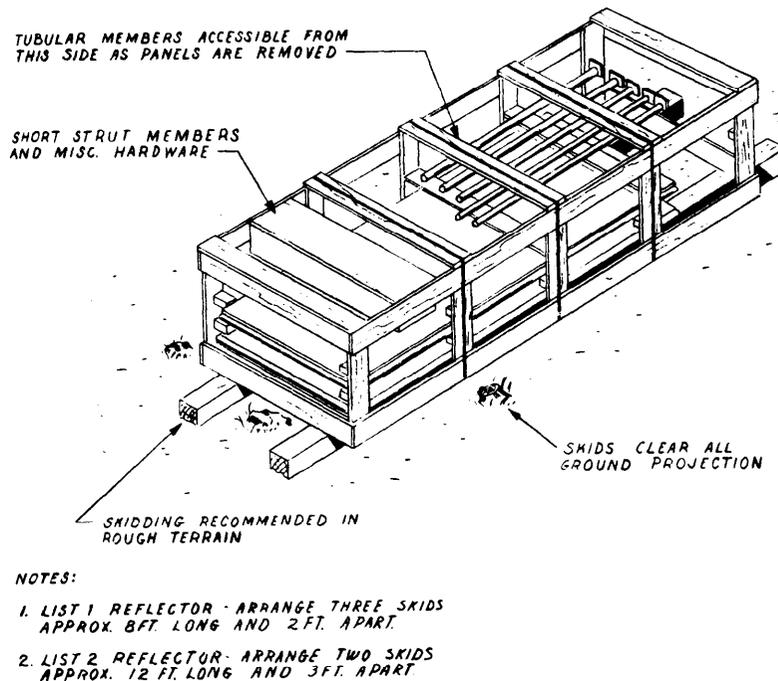

Fig. 1 — Placement of Shipping Crate for KS-16320 Passive Reflector
2.04 Since the larger crate is of open construction, the contents are visible. The crate should be unloaded flat, as shown in Fig. 1 of this section, so that the tubular members which are strapped to the interior bracing are visible from the top and will be immediately available when the top panels are removed. If the area is sufficiently flat and smooth, the crate may be placed directly on the ground. If rocks or other surface projections might damage the parts, the crate must be set on skids or the equivalent, as shown in Fig. 1 of this section, to clear the obstructions.